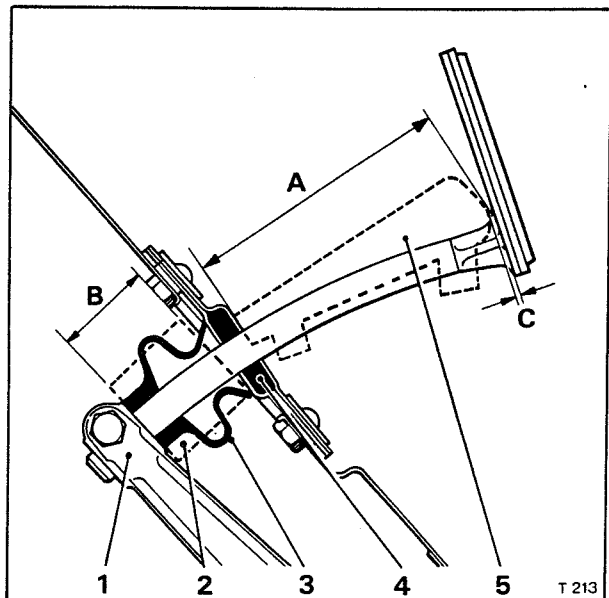

Fig. G20m Brake pedal height settings
Brake pedal height setting (see Figs. G20m and G21m)
1. Locate the setting gauge into the brake pedal stem hole in the end of the pedal lever (see Fig. G20m). Raise the pedal lever until the gauge touches the underside of the toe-board seal housing.
1. Place the checking template as shown in Figure G20m between the underside of the brake pedal and the upper surface of the pedal seal housing with the two lugs of the gauge located under the pedal stem. Rest the flat base of the template on the seal housing. Ensure that both carpet and underlay are removed from the housing surface.